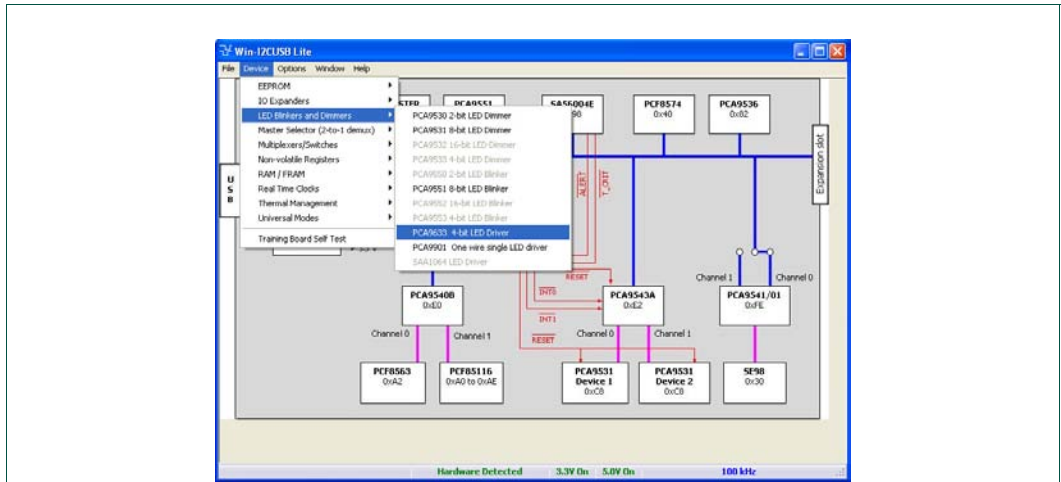

Fig 3. Drop-down menu selections
4. From the 'Device' drop-down menu select 'LED Blinkers and Dimmers', and from the subsequent drop-down menu select 'PCA9633 4-bit LED driver' as in Figure 3.